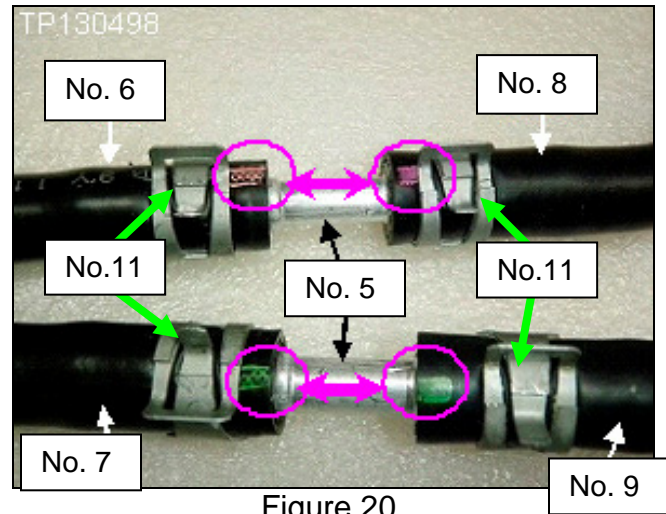

Figure 20
- Match the color marks on the hoses and rotate until the marks are aligned (Figure 20).